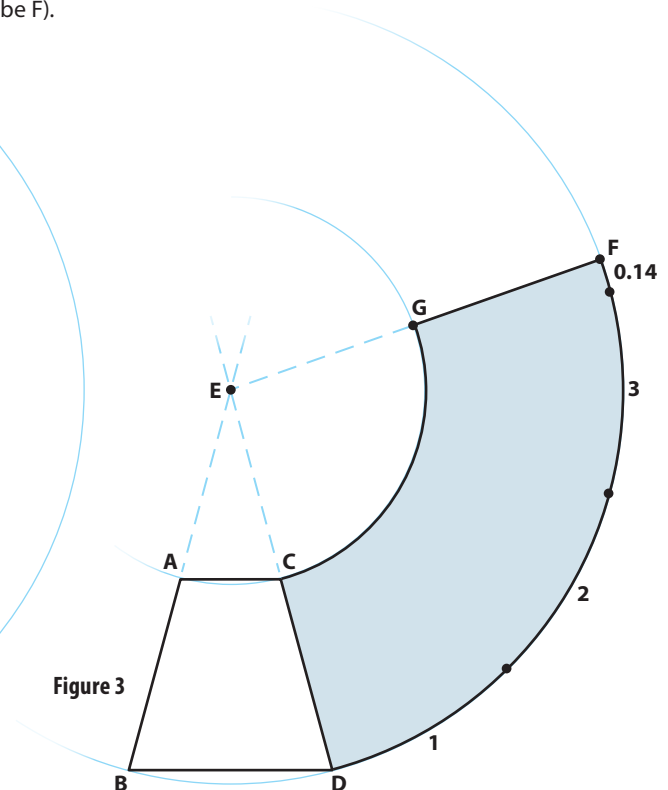

Figure 3
**6.** Curve the string or wire around the large arc, starting at D. Mark the arc at the mark on the string or wire. Mark this F (**Figure 3**).